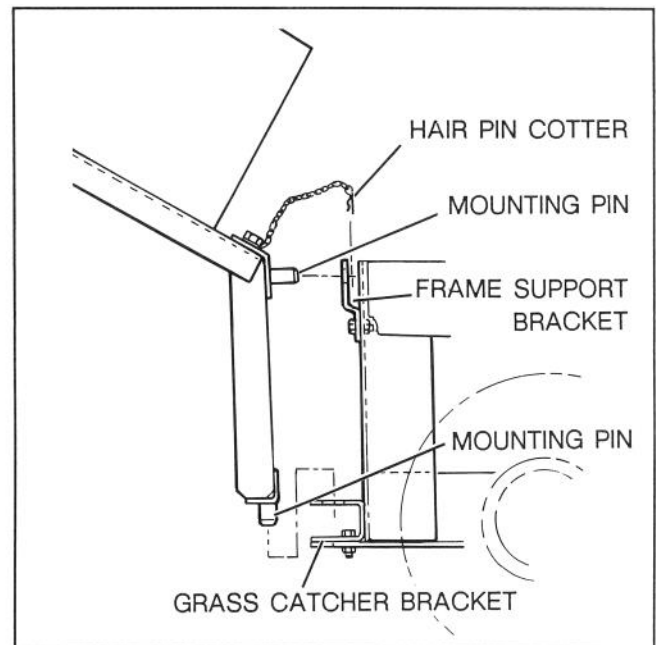

Figure 4
1. Slide grass catcher mounting pin into mounting hole in grass catcher bracket (Fig.4).
2. Rotate grass catcher up so mounting pins line up with mounting holes in frame support bracket. Push pins through holes and retain with hairpin cotters (Fig.4).